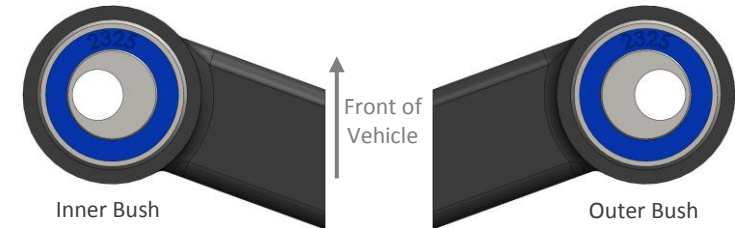

Figure 02 – Camber adjustment
- Clean the housing and push in the new SuperPro bushes as shown in Figure 01. For the SPF2326K kit, make sure the bushes are aligned correctly to achieve the desired camber settings, refer to Figure 02 for details;